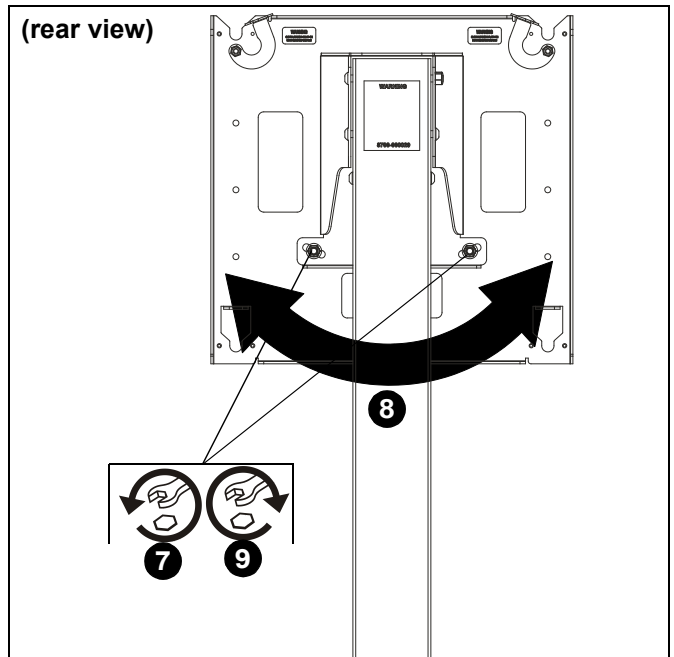

Figure 23
7. Loosen nuts on back of faceplate. (See Figure 23)
8. Adjust roll as desired. (See Figure 23)
9. Tighten nuts on back of faceplate. (See Figure 23)